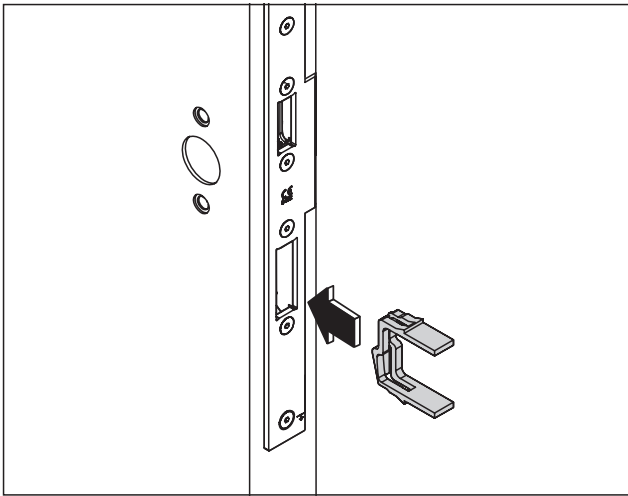

Fig. 45 Insert locking clamp
- 6.** Insert the locking clamp into the SVI lock (Abb. 45).